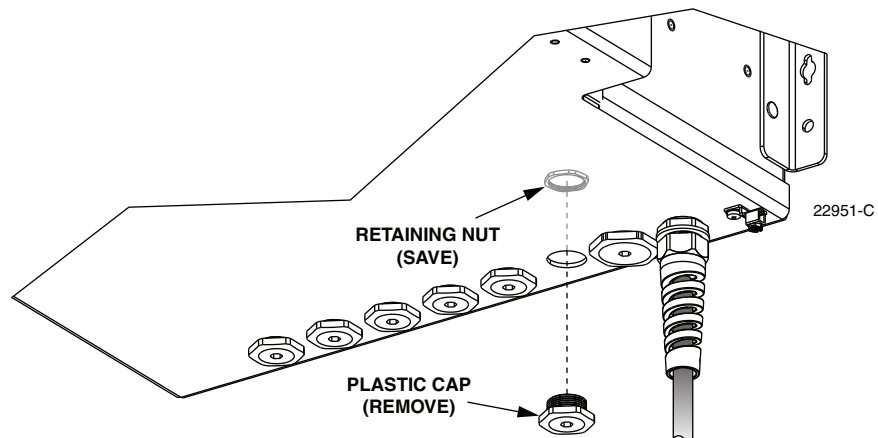

Figure 55. Plastic Cap Removal
4. Remove the plastic cap and retaining nut from the selected distribution cable entry/exit hole as shown in Figure 55. Save the retaining nut for reuse.